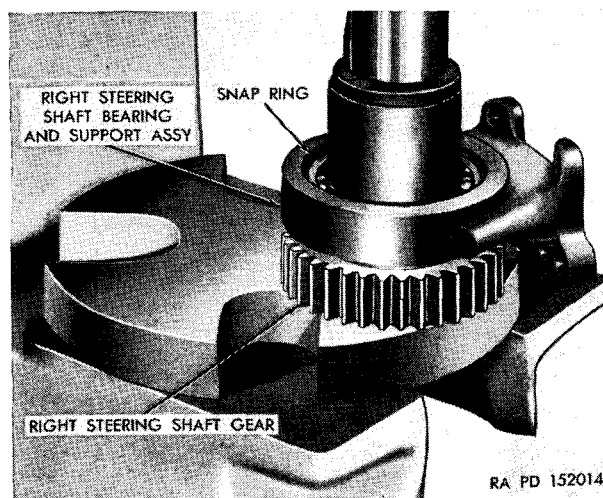

Figure 275. Installing right steering-shaft bearing assembly.
- ing snap ring using a screwdriver. Press the bearing assembly, snap ring side up, onto the hub of the right steering-shaft gear (fig. 275).